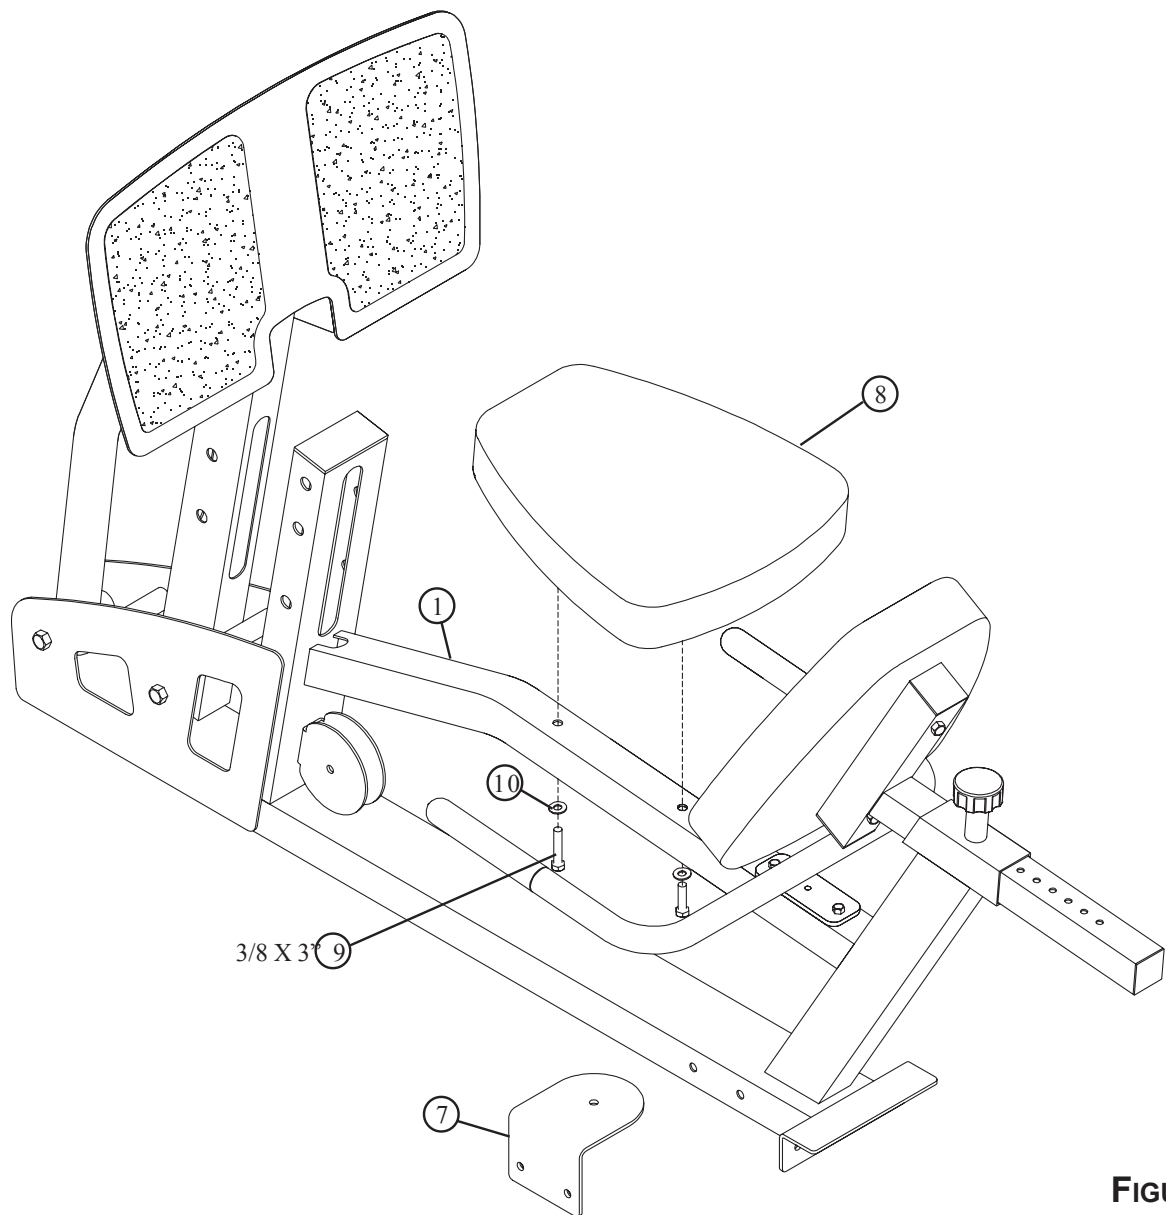

FIGURE 8
- A. Securely assemble one Pad (18) to the Frame (1) using two 3/8 x 3" Bolts (9) and two 3/8" Flat Washers (10) as shown in Figure 8.
- B. To attach the GLP Leg Press to a home gym, refer to the Leg Press Adapter assembly instructions. The Pulley Bracket (7) will be installed when the Leg Press is connected to the home gym.